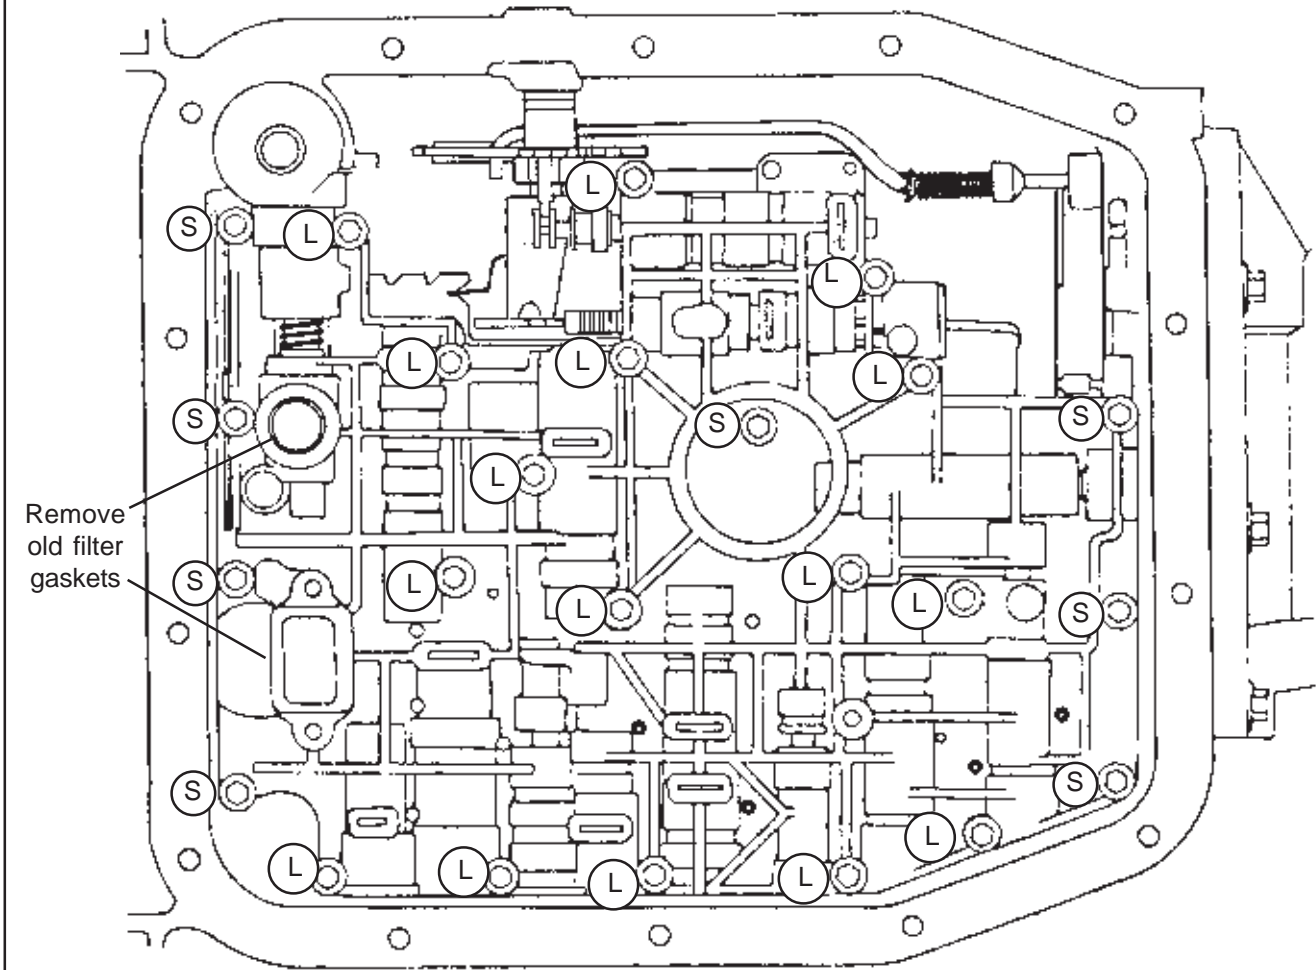
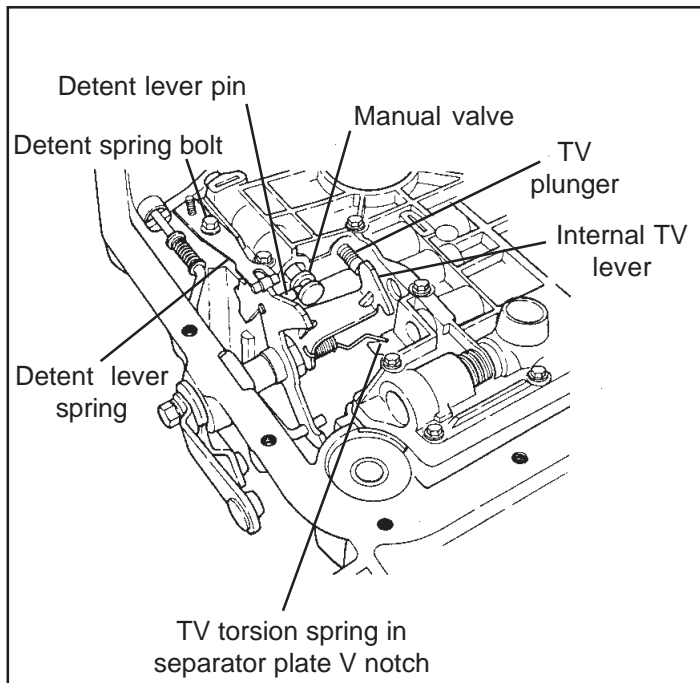

Figure 1
Figure 7
Remove the filter grommet and gasket material from valve body. (See Figs. 1 & 2.)
STEP 3. Remove all of the valve body bolts **except** one near the center (See Fig. 1). Hold valve body up
STEP 18. Install valve body up to case being careful to align manual valve with pin in detent plate (See Fig. 7). You also have to manually engage the TV lever between the valve body and TV plunger. **DO NOT** try to force the valve body into place, it will go right into place with a little patience. With the valve body **sitting flush** against the case install (1) bolt to hold the valve body in place. Make sure the detent plate pin and internal TV lever are properly positioned then install (8) short M6x30mm (1.16") and (16) M6x40mm (1.56") shoulder bolts (See Fig. 1). Remove the alignment pins only after all but the last two bolts have been installed. Install **ALL** bolts **FINGER TIGHT**. The short bolts are installed (4) in front (1) in center and (3) in rear of valve body.
STEP 19. Position the TV torsion spring against the separator plate 'V' notch (See Fig. 7). The TV torsion spring pushes the TV lever against the TV plunger. **Failure to position this spring properly will result in erratic shifting.**